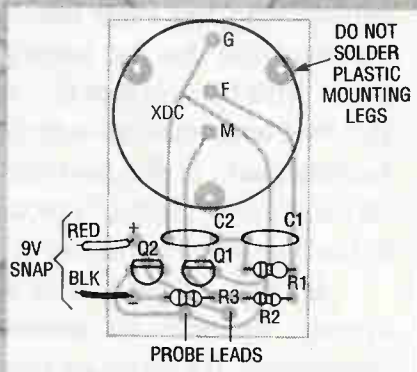

Figure 2. Be sure to mount the transistors and transducer in the directions indicated in this parts-placement diagram.
1. Building the moisture detector is not difficult if you follow the parts-placement diagram in Figure 2, the schematic in